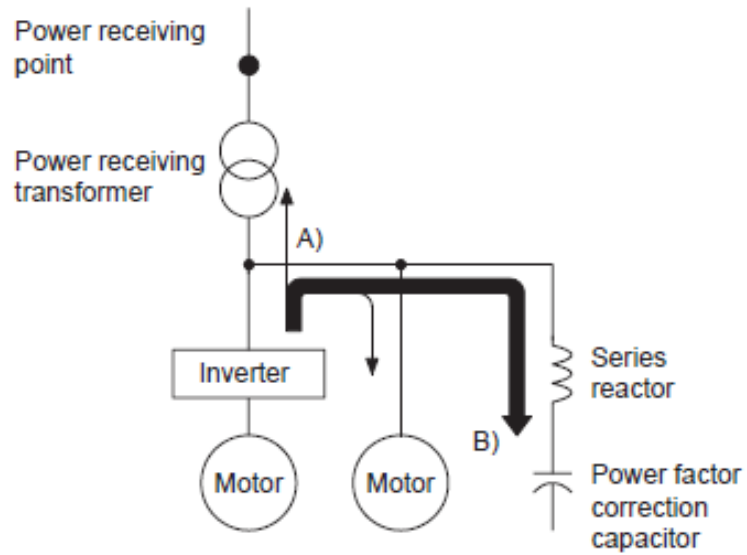

Fig. 5.7 System Diagram Example
- Since harmonics are generated in the converter circuit (rectifying circuit) of the inverter, the inverter can be represented as a power supply in an equivalent circuit with regard to harmonics as shown in figures 5.7 and 5.8.